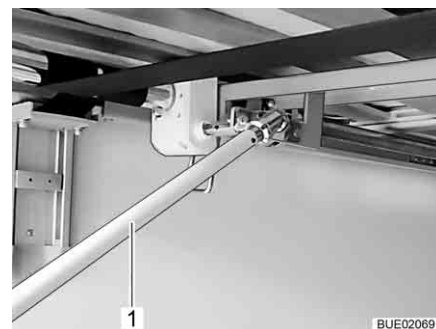

Fig. 120 Crank in the rear garage
- To lift the bed: Turn the crank (Fig. 120,1) clockwise.
To lower the bed: Turn the crank (Fig. 120,1) anticlockwise.